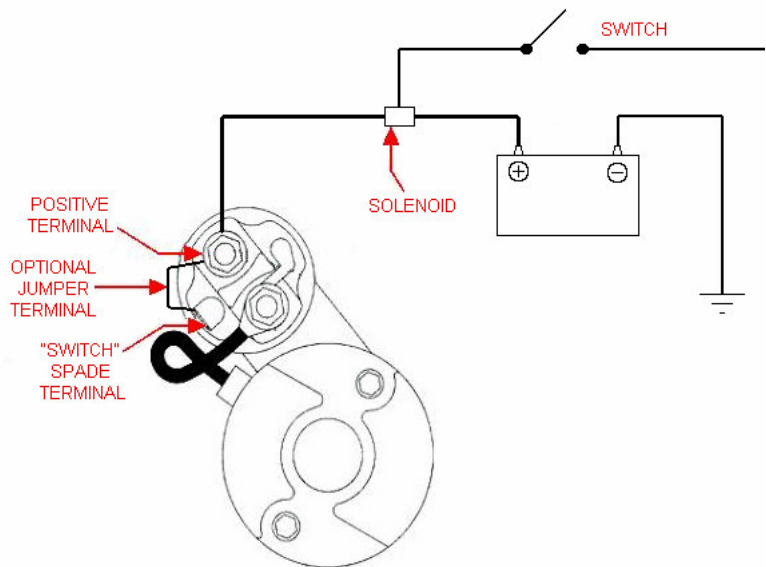

Figure 1: Remote Solenoid set-up
- b. Connect the battery cable from the solenoid to the unused stud. Refer to Figure 1.